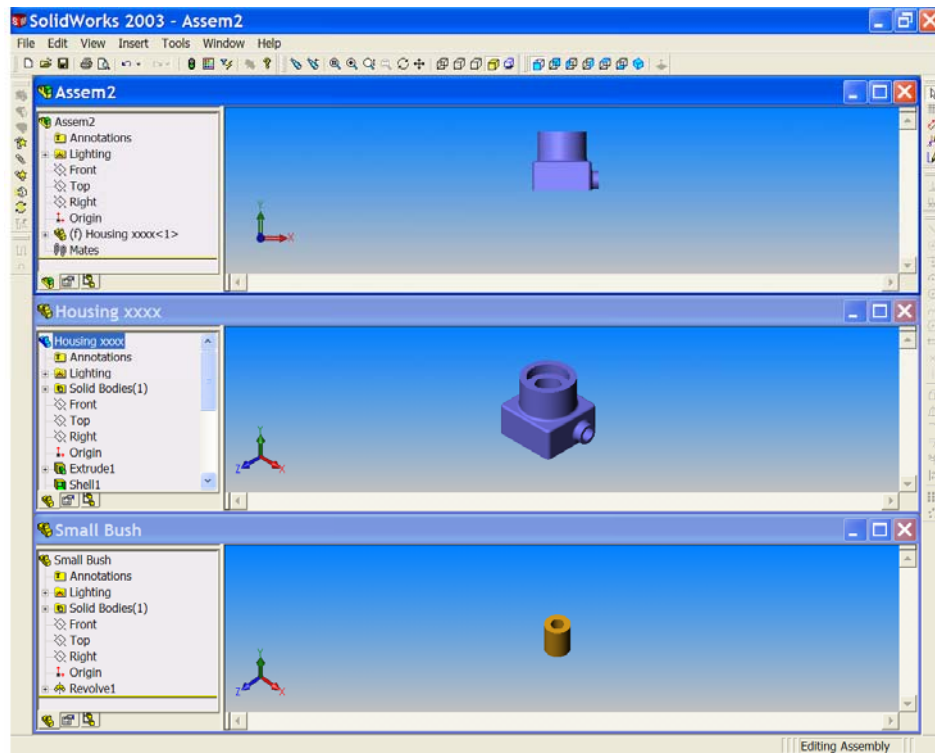

Figure 4
3. Drag the '**Housing icon**' from the top of the **HOUSING FEATURE MANAGER TREE** in the Housing part window, and drop it in the **FEATURE MANAGER DESIGN TREE OF THE ASSEMBLY WINDOW**. See Figure 4.